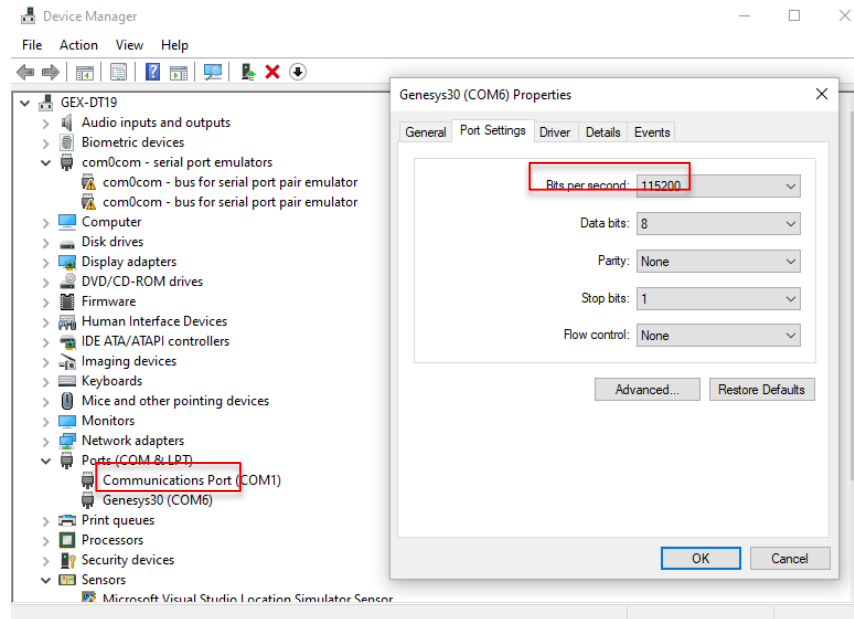

Figure 2
- d) Click the “Port Settings” tab on the Properties window. Change the Bits per second to “115200”. See Figure 2 for a visual description.